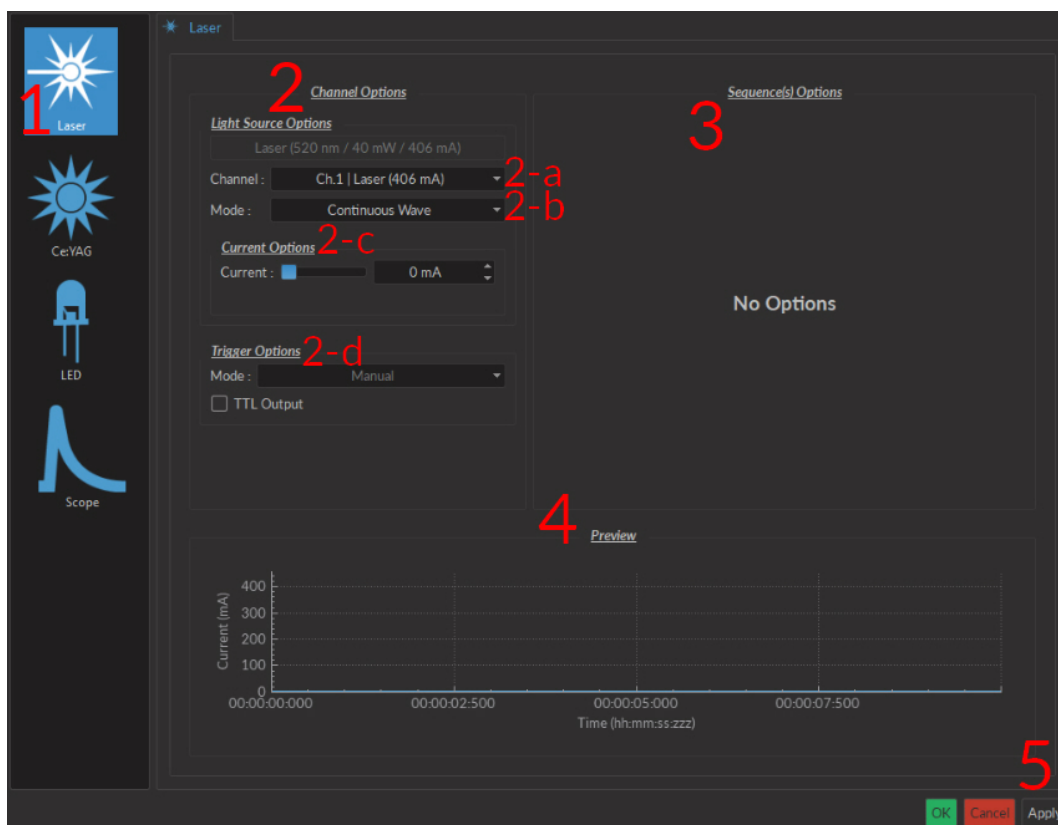

Figure 4.2: Light Source Channel Configuration Window
when the driver is connected to the Doric Neuroscience Studio. These function are used through the **Channel Configuration** window (Fig. 4.2).
1. The **Channel Types** (Fig. 4.2) are displayed on the left side of the window. These include **Laser** light sources, **Ce:YAG** light sources and **LED** light sources, as well as the **Scope** to measure signal using the driver.
2. The **Channel Options** box (Fig. 4.2) includes **Light Source Options** and **Trigger Options** for the given channel.
- a) The **Channel** (Fig. 4.2) drop-down list identifies which driver channel is currently being edited, assuming a driver with multiple channels.
- b) The **Mode** (Fig. 4.2) drop-down list includes each possible driver mode. These are used to control the pulse sequences emitted by the light source. The options related to this mode are detailed with the **Sequence Options**.
- c) The **Current Options** (Fig. 4.2) includes the slider used to control the current sent to the light source.
- d) The **Trigger Options** (Fig. 4.2) allow the selection of a number of trigger modes to activate a pulse sequence.
3. The **Sequence options** box (Fig. 4.2) is where sequence options are defined depending on the mode. The **Continuous wave**, **External TTL** and **External Analog** modes have no additional sequence options.
- The **Preview** box (Fig. 4.2) displays a preview of the chosen sequence while in the **Continuous Wave**, **Square Sequences** and **Complex Sequences** mode.
- The **Apply** button (Fig. 4.2) will generate the defined channel OR update an already configured channel with any changes.